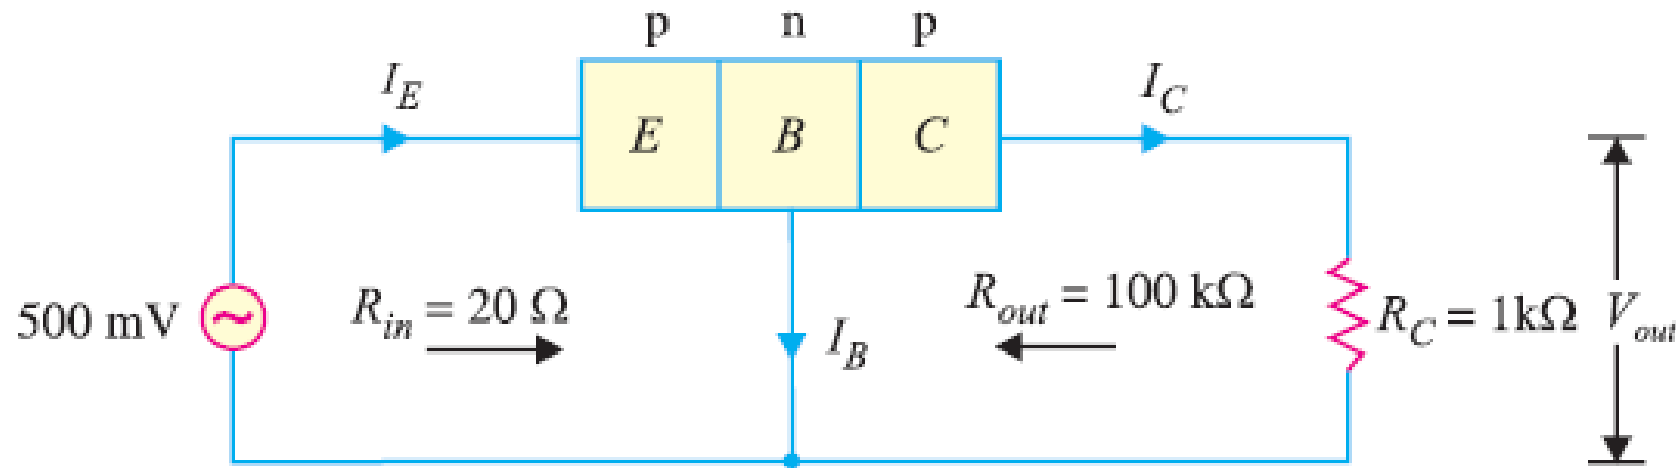

Fig. 1
- Fig.1 shows the conditions of the problem. Here the output resistance is very high as compared to input resistance, since the input junction (base to emitter) of the transistor is forward biased while the output junction (base to collector) is reverse biased.